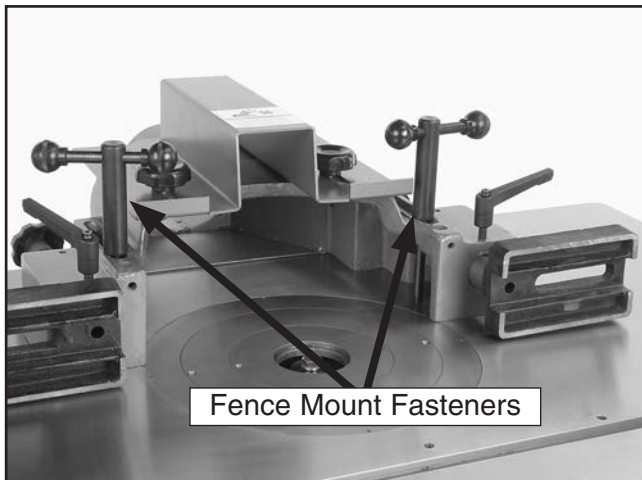

Figure 10. Fence mount installed.
2. Screw the fasteners into the table holes provided (see **Figure 10**).